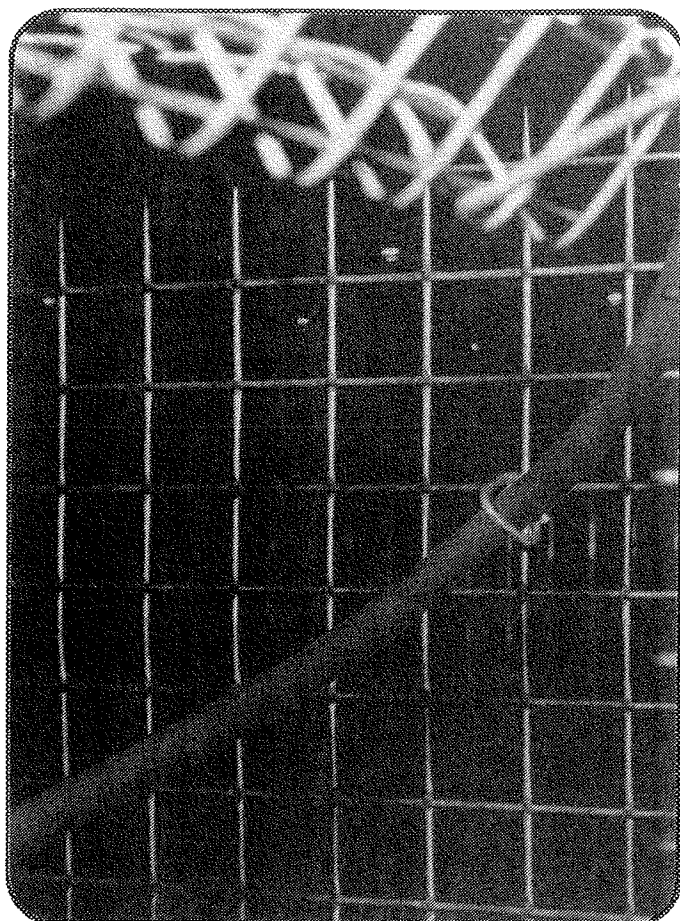

Figure 29.
4. Ring the hose to the partition at one place, as shown in Figure 29. DO NOT CRUSH THE HOSE. Leave enough loose hose, between the Cup Assembly and the ring, to allow the Cup Assembly to be fully adjusted up or down.
6. The hose, that connects the top level Cup Assembly to the waterer line, should be fastened to the cage partition with a cage ring at one place as shown in Figure 29. **DO NOT CRUSH THE HOSE.** Leave enough loose hose, between the Cup Assembly and the ring, to allow the Cup Assembly to be fully adjusted up or down.